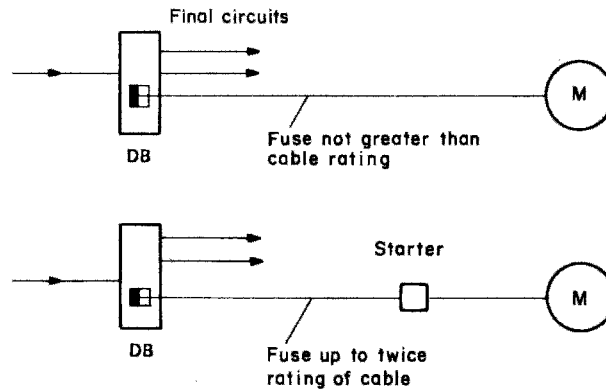

Fig. 8.46 (DB = distribution board)
- 10 The final circuit supplying a motor shall be protected by fuses or circuit breakers of rating not greater than that of the cable, unless a starter is provided that protects the cable between itself and the motor, in which case the fuses or circuit breakers may be rated up to twice the rating of the cable between the fuse and the starter (Fig. 8.46).